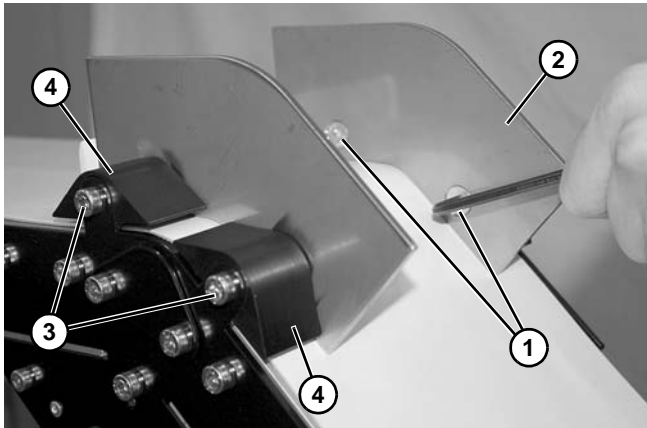

**Figure 58**
- If equipped with a lower knuckle, remove screws (**Figure 58, item 1**) and remove guards (**Figure 58, item 2**) on both sides of knuckle.
- Remove screws (**Figure 58, item 3**) and remove roller bearing assembly (**Figure 58, item 4**) on both sides of knuckle.